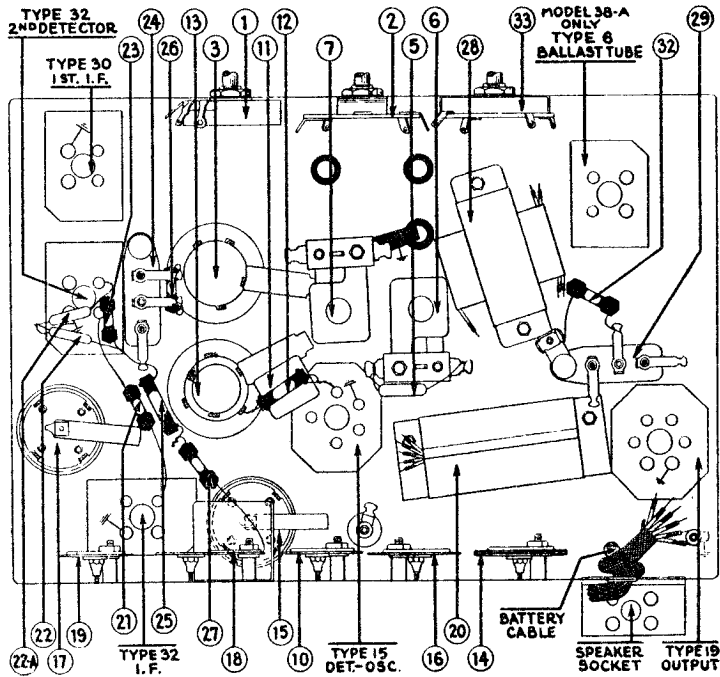

Fig. 2—Bottom View of Chassis, Showing Parts.
The location of the compensating condensers may be learned by referring to Fig. 3 of the present bulletin for their electrical location in the circuit; to Fig. 2 of this bulletin for the physical location of the compensating condensers underneath and at the rear of the chassis.
The intermediate frequency compensating condensers first should be adjusted. These condensers are identified as (10), (16), (18), and (19); they are situated at the rear of the chassis, and are shown in Fig. 2. They are accessible from the rear of the chassis. The intermediate frequency is 460 K.C.